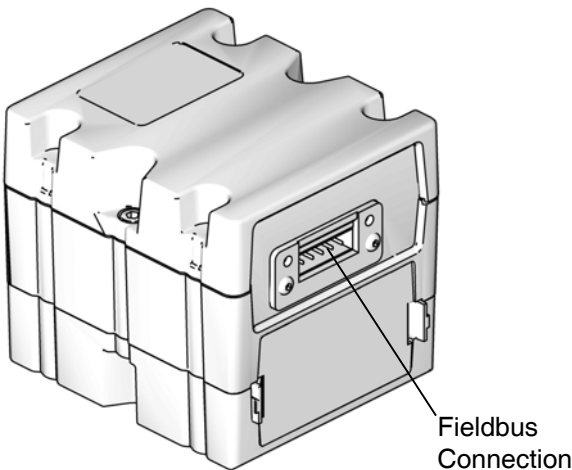

FIG. 24: CGM Fieldbus Connection
11. Connect the Ethernet, DeviceNet, or PROFIBUS cable to the fieldbus connection on the CGM as applicable. See **Figure 24**.